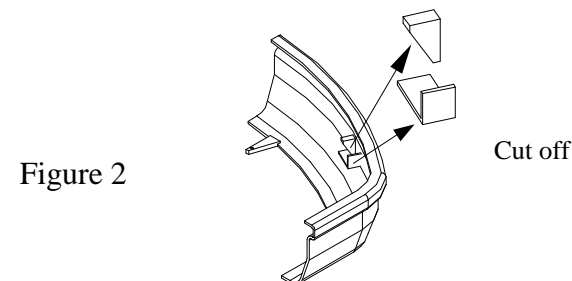

Figure 2
6. Reassemble the bumper after cut off elements as shown in the figure 2.
7. Fix body of the automat (pos. 12) and the socket plate (pos. 3) using bolts M12x25mm (pos. 6) from accessories. Place tow-ball (pos. 2) according to supplied instruction.